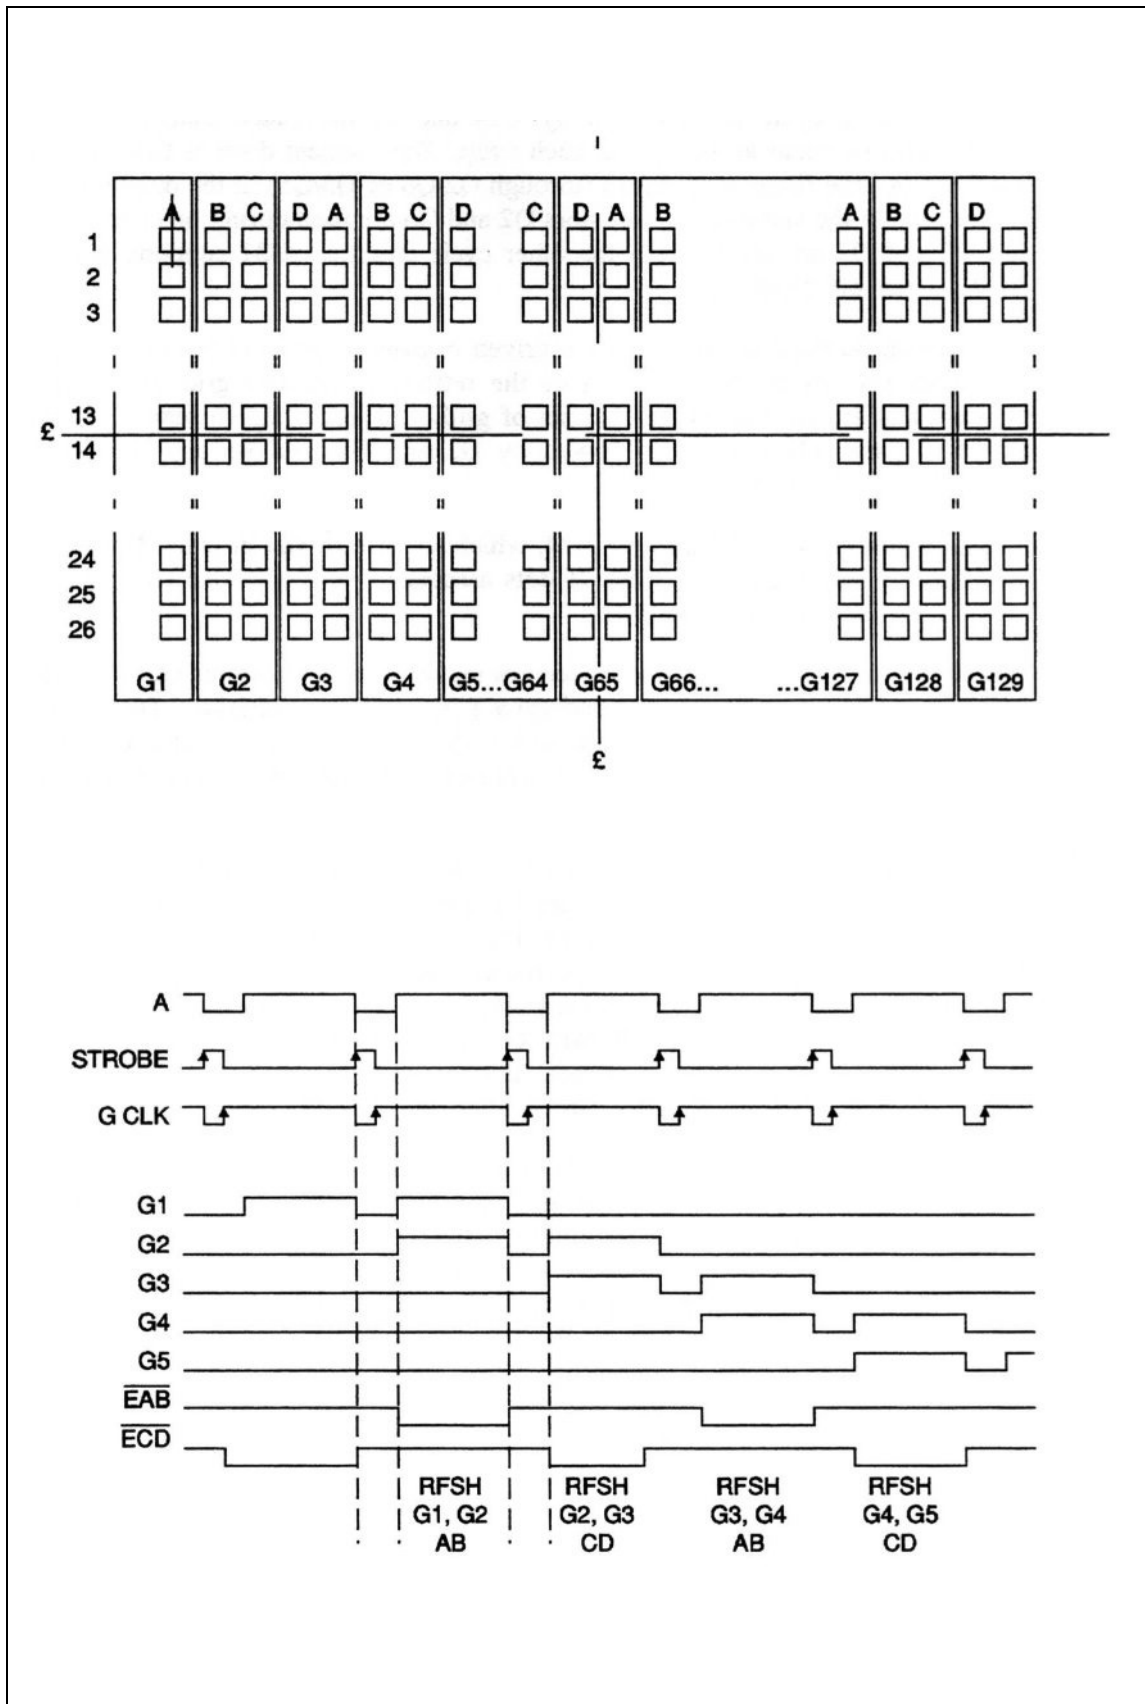

Figure 3-4. Vacuum Fluorescent Display
The vacuum-fluorescent tube grids are driven in pairs. Grid input (GI) is held high for two clock periods at the beginning of the refresh cycle. The grid drivers are shift registers that are clocked to the next set of grids with each refresh scan. The grids are driven in pairs, G1 and G2, followed by G2 and G3, and so on. This scheme is illustrated in Figure 3-4.